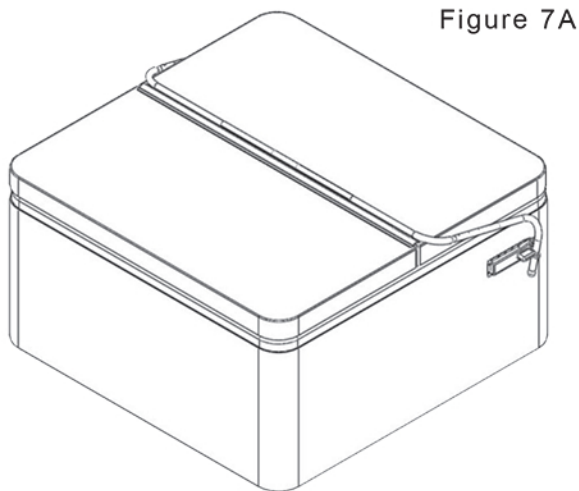

Figure 7A
**8** Lay the Lifter on the spa cover, see *Figure 7A*. Adjust the **Center Coupler Assembly** and the **Support Arms (B)** so that the **Center Coupler Assembly** is lying parallel to the spa cover hinge approximately 1/2" away. See *Figure 7B*.